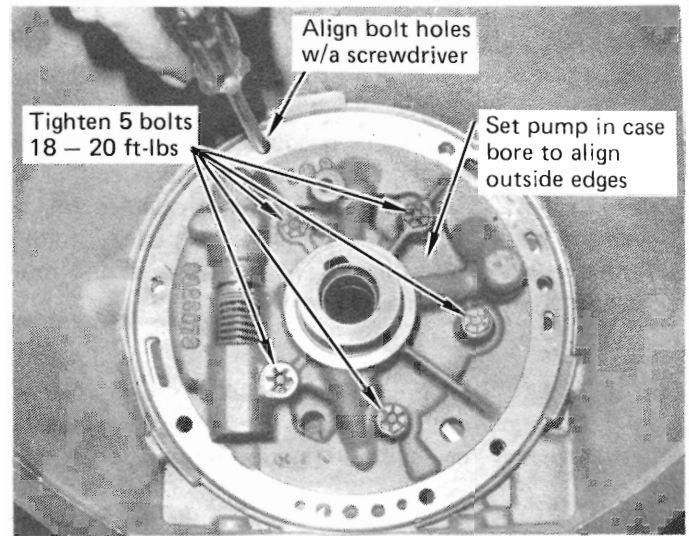

FIGURE 38
STEP 9. Position the pump cover over the pump body. Align the outer bolt holes and hold the pump halves together while installing the five pump bolts finger tight. The outer edges of the pump must be aligned properly. This can be done by setting the pump into the transmission case, face down, and aligning the outer bolt holes with a screwdriver. (See Fig. 38) Do not install an O-ring on the outside diameter of the pump during this operation. Tighten pump bolts 18 to 20-ft lbs. Remove the pump from the case and set carefully over the neck of the torque converter. Rotate the entire pump assembly on the converter. It should rotate freely with a slight even resistance. Any bind or tightness indicates dirt, burrs or warpage interfering with the rotors. The pump will have to be disassembled and the problem corrected. **An incorrectly assembled pump will fail immediately!**